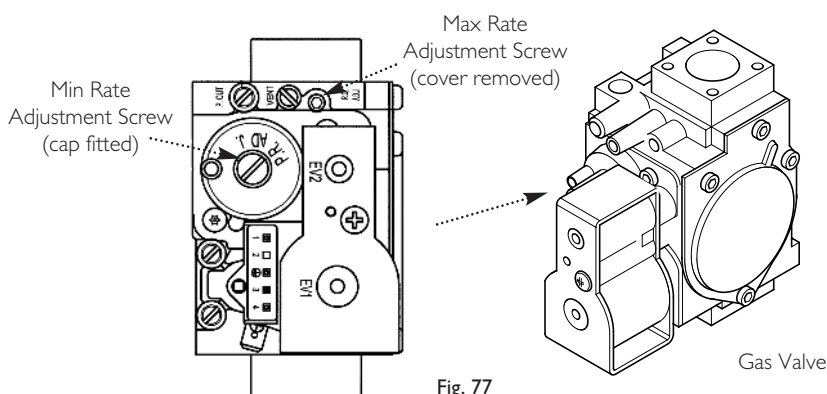

Fig. 77
9. It is possible to alter the CO₂ by adjustment of the gas valve. Remove the plastic cover from the 'Max Rate' adjustment screw. At maximum rate the 'Max. Rate' adjustment screw should be turned, using a suitable hexagon key, until the correct reading is obtained (Fig. 77).
11. With the boiler on minimum, the 'Min. Rate' adjustment screw must be altered, using a suitable hexagon key, after removing the cap (Fig. 77). If the CO₂ is reset at either boiler rate it must be rechecked at the other rate and also adjusted if required.